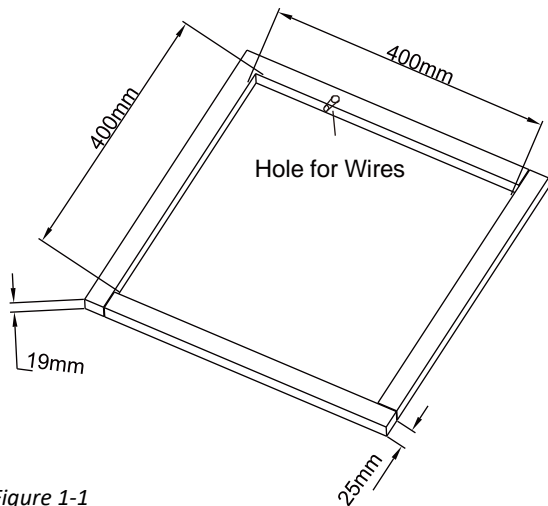

Figure 1-1
If a roof vent opening is not used, a new opening (see figure 1-1) will be cut into the vehicle roof. A matching opening will also have to be cut into the interior vehicle ceiling, be careful when cutting the ceiling opening because if the ceiling opening is carpeted, snagging could occur. After the opening in the roof and interior ceiling are the correct size, a framed support structure must be placed between the exterior roof top and interior ceiling. The reinforced framed structure must follow the following guidelines:
2. It must be capable of holding the roof outer surface and interior ceiling apart and supporting them, so that when the roof top air conditioner and ceiling assembly are bolted together, no collapsing occurs. A typical support frame is shown in Figure 1-1.